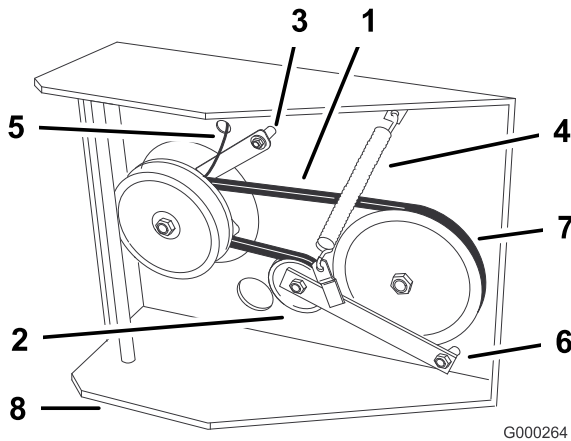

Figure 45
6. Disconnect clutch retainer from the engine deck (Figure 45).
7. Unhook tension spring from side of frame (Figure 45).
10. Torque pivot bolt to 35-40 ft-lb (47-54 N-m). Install tension spring between idler arm and frame bracket (Figure 45).
11. Install clutch retainer to the engine deck (Figure 45).